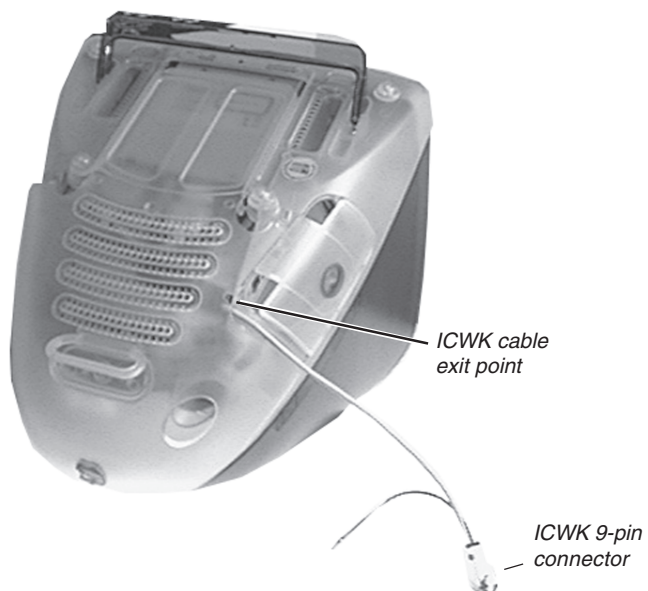

Figure 3a
8. Reinstall the iMAC bottom panel with the ICWK cable positioned through the notch (Figure 3a) created in step 5 and the heat shrink insulated ICWK circuit card positioned as far under the iMAC monitor connector as possible. A piece of tape may prove helpful for holding a stubborn ICWK circuit card in place. Carefully snap the bottom cover in place, when correctly positioned, tighten the cover screw.